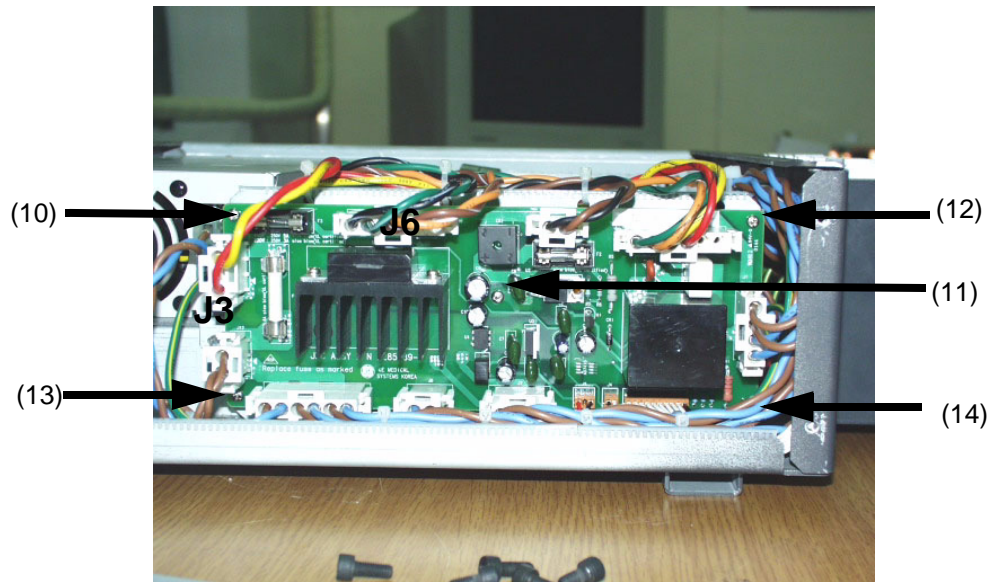

Figure 8-188    Disconnecting all connectors
3.) Disconnect all the connectors connected in the JPC Assy. Refer to Figure 8-188.